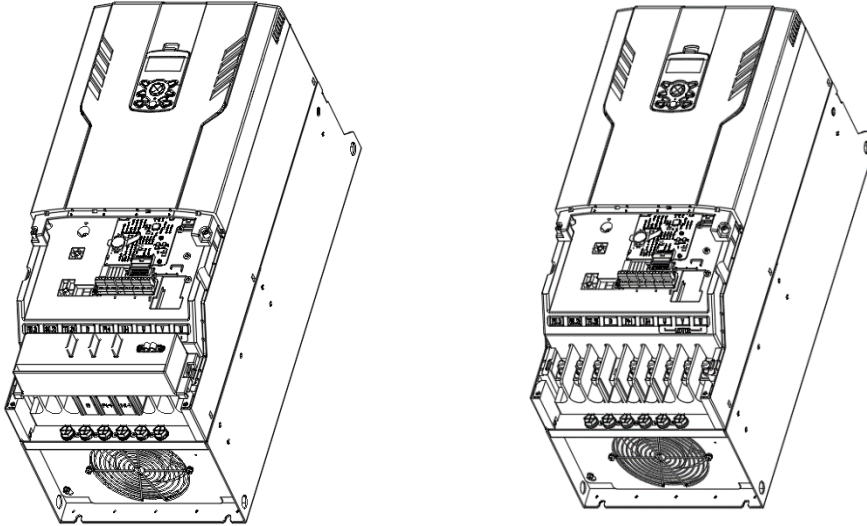

Figure 7. Remove power cover and cable guide
- ① Remove the power cover and cable guide of the product as shown in Figure 7.